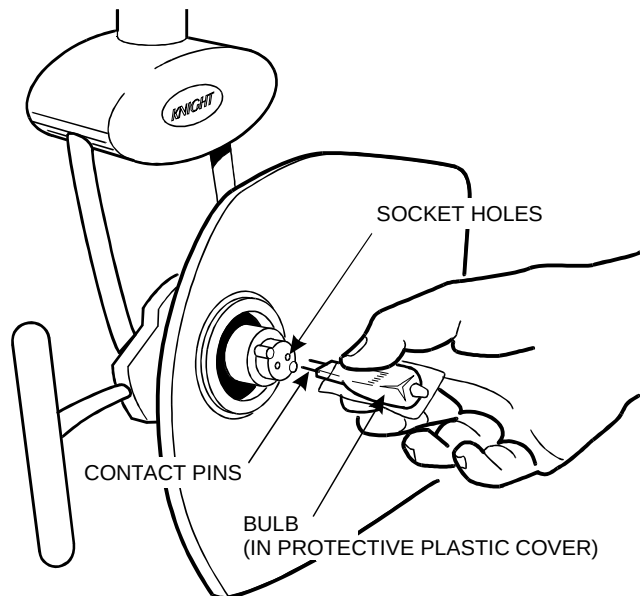

Figure 13
2. Remove the bulb by pulling straight out (See Figure 13).